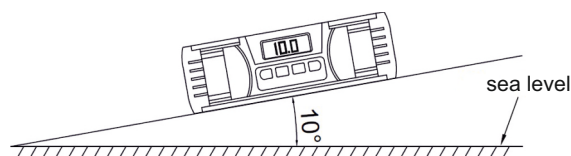

Fig. 4
- » The reading shows the level of this surface (Fig. 4).